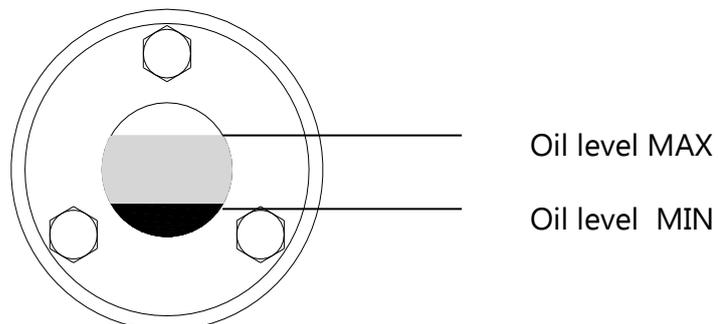

Fig. 81 Oil level range
- d) Introducing a quantity of oil to bring the level within the range shown in Fig. 81.